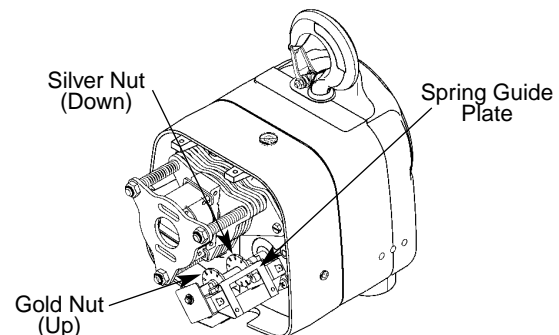

Figure 3 — Limit Switch Assembly
Refer to Figures 3 and 4.
- Using a screwdriver, pry the spring guide plate out of the slots in the limit switch nuts (See Figure 3). Turn the gold nut back to about the center of the threaded screw. Do not disconnect the wires from the limit switches.
Refer to Figure 3.